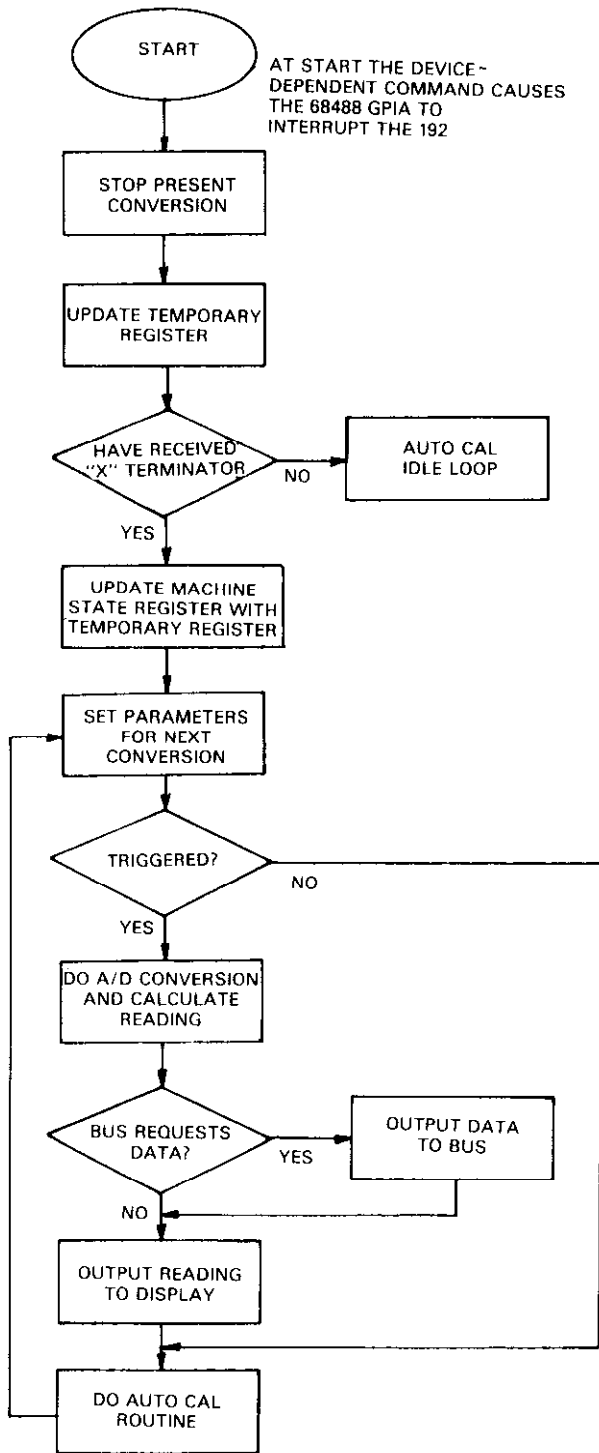

Figure 5-10. Device-Dependent Commands
Device-dependent command group are instrument programming commands. Commands within this group are specified by the instruments. All device-dependent commands must be followed by a terminator (X) to be executed by the Model 192 (see Figure 5-10).